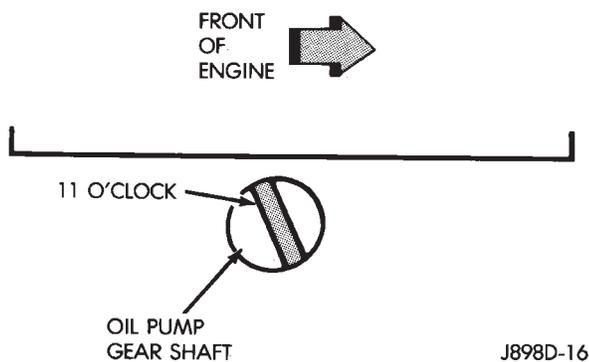

Fig. 17 Align Oil Pump Gear Shaft—4.0L Engine
(1) Clean the distributor mounting area of the cylinder block.
(2) Install a replacement distributor-to-engine block gasket.
(3) Using a flat blade screwdriver, turn the oil pump gear shaft. Do this until the slot is slightly past the 11 o'clock position (Fig. 17).